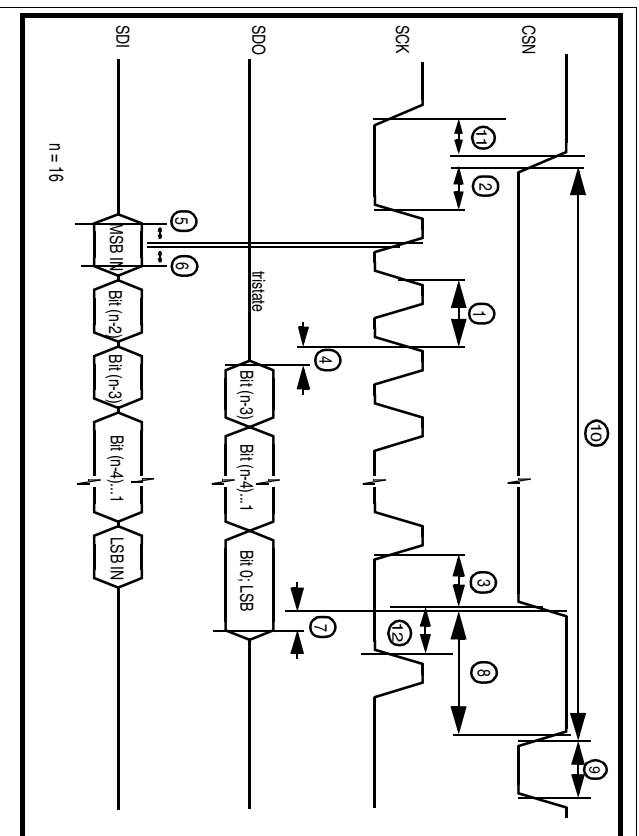

Figure 13 SPI-timing
**SPI Timing (see Figure 13)**
3.4.50	Cycle-Time (1)	$t_{CYC}$ (1)	200	–	–	ns	referred to master